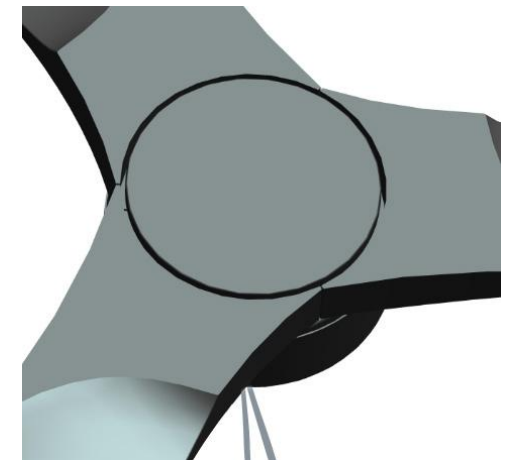

Fig 2.2
2.2 The decorative cover installed is shown in Fig 2.2.